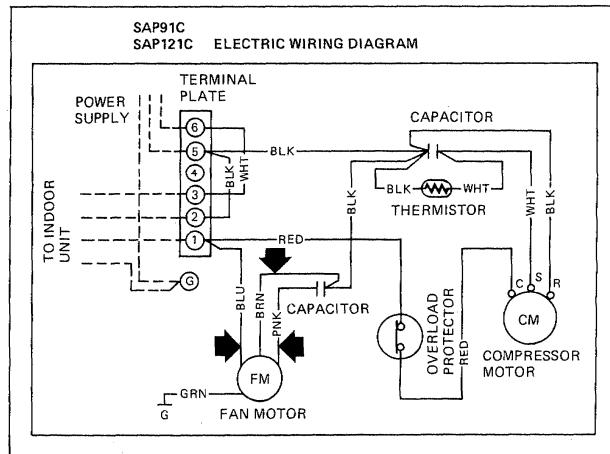

Fig. E-5A
Remove the blue (BLU) lead wire from the terminal ① then brown (BRN) and pink (PNK) lead wires from the fan motor capacitor respectively as indicated in the wiring diagram (Fig. E-5A)